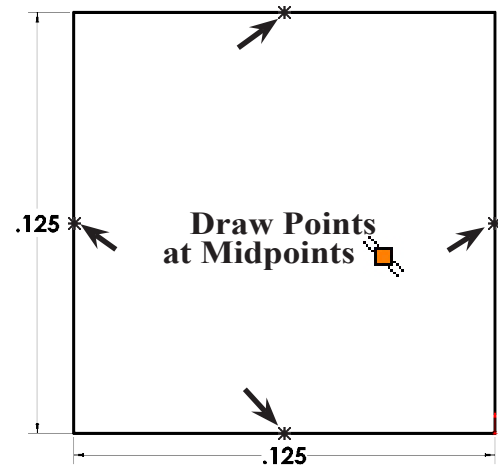

Fig. 3
Step 5. Click **Smart Dimension**  (S) on the Sketch toolbar.
Step 6. Set dimensions as shown in **Fig. 3**. .125 x .125
Step 7. Click **Zoom to Fit**  (F) on the View toolbar.
Step 2. Draw Point at midpoint of each line of rectangle, **Fig. 3**. To find midpoint, move cursor across line and as cursor approaches midpoint highlights  you click.